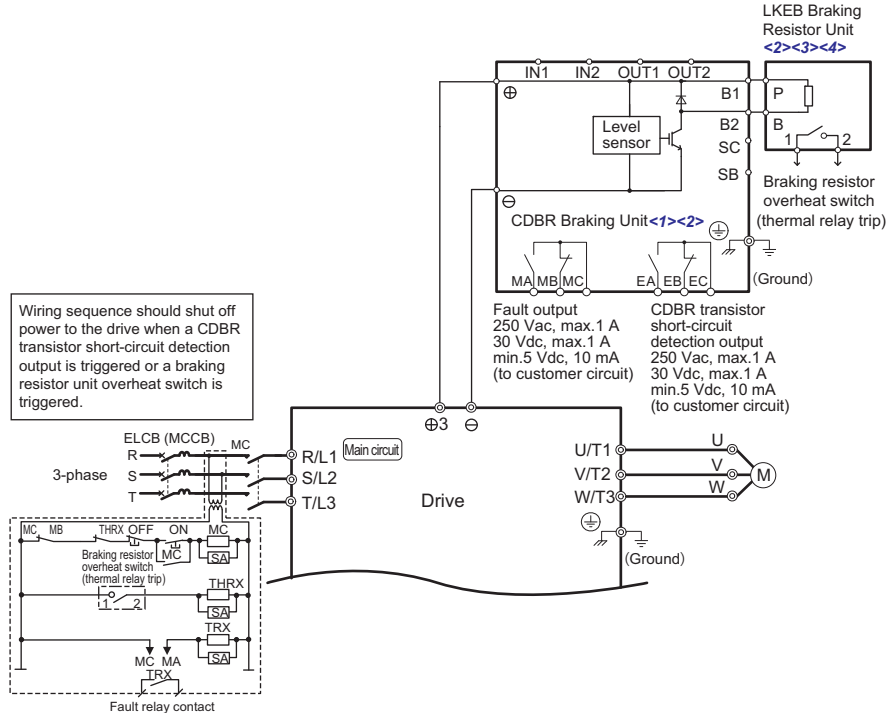

Figure 21 Connection Diagram
1. For all CDBR wiring refer to Table 11 for wire gauge and torque specifications and refer to Figure 21 for the drive and option connection diagram